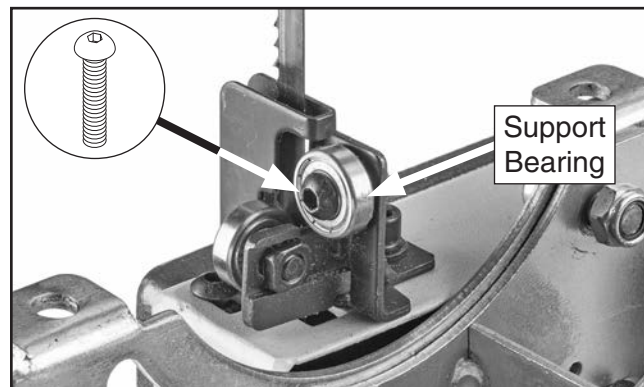

Figure 26. Location of lower support bearing (table removed for clarity).
2. Loosen button head cap screw (see **Figure 26**).